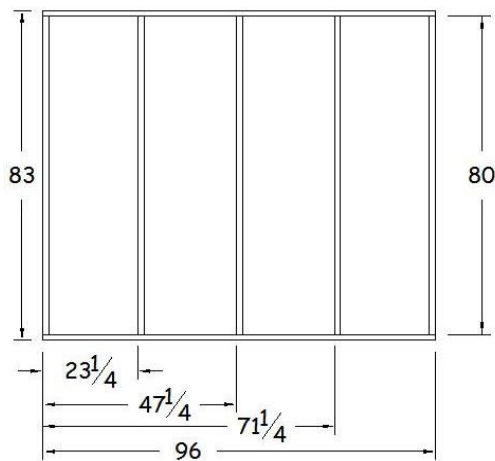

Figure 22-5. Side Wall Framing.
- b. Cut four pieces of 2x4 to 96" lengths. Pair them as upper and bottom plates (one pair for each wall) and lay out stud locations on 24" centers as in Figure 22-5.